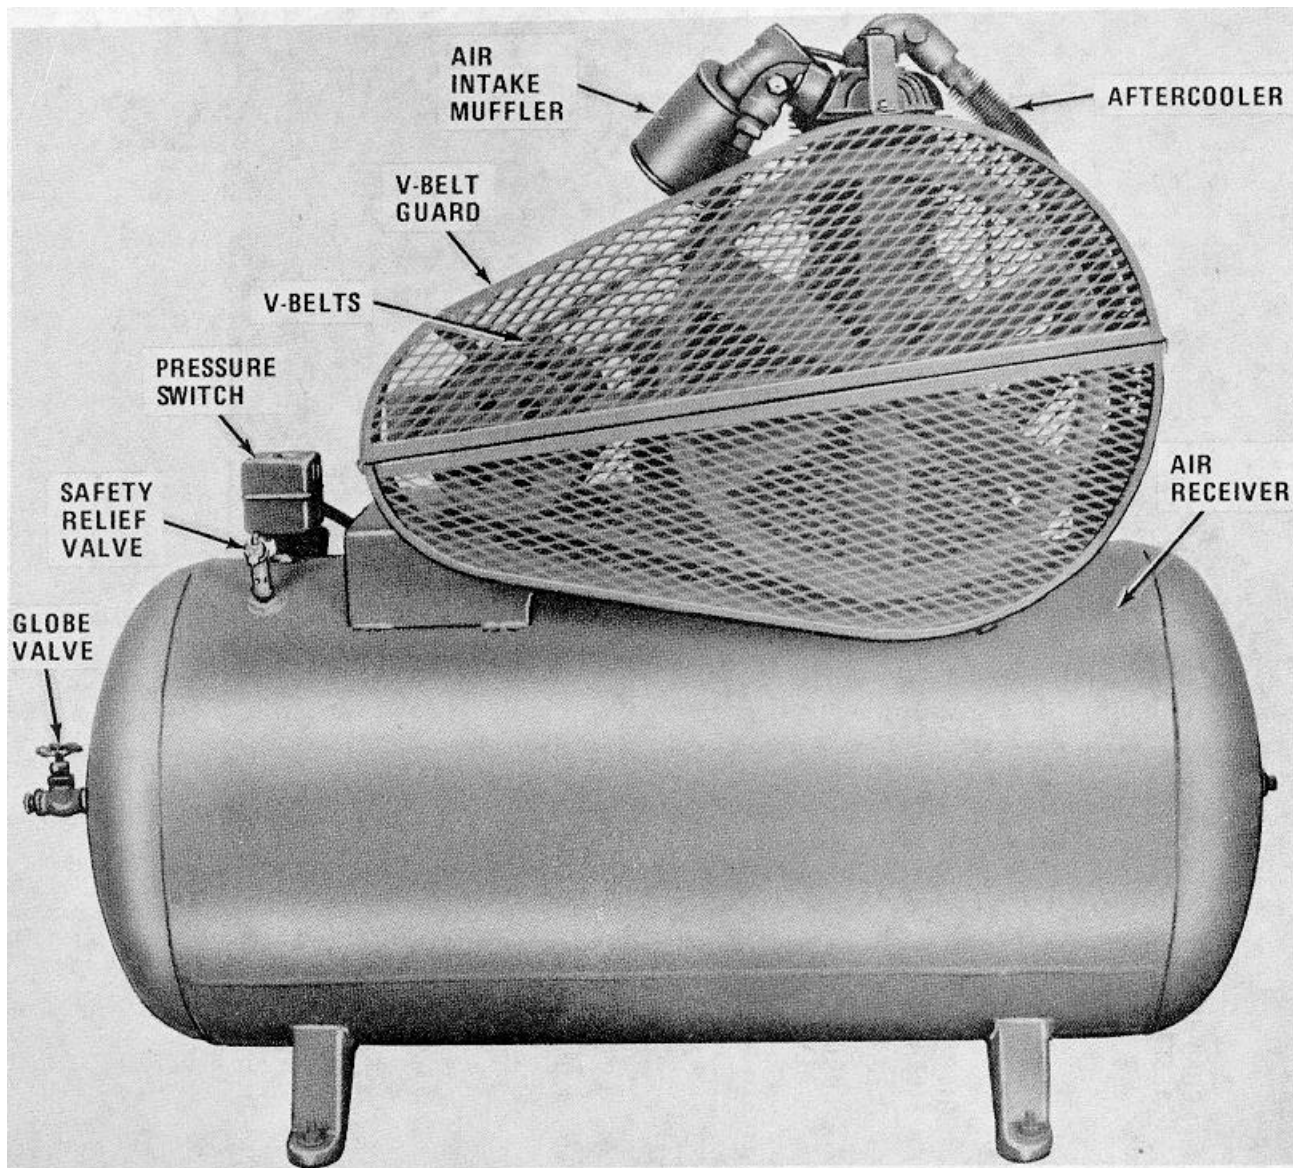

Figure 1-2. Air Compressor, left side view.
f. Safety Relief Valve. The safety relief valve (fig. 1-2) is mounted on top of the air receiver tank at the motor end. It is a preset valve that is actuated when the air receiver tank receives a pressure of 200 psi (14.06 kgs per sq cm) or more. This valve can be
(1) Close globe valve (fig. 1-2).